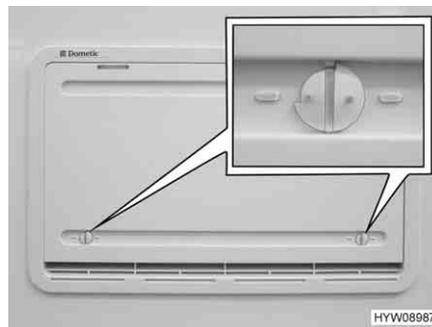

Fig. 131 Winter cover
If the refrigerator is to be operated at low external temperatures, the manufacturer recommends the use of a winter cover (Fig. 131) for the refrigerator ventilation grills.
- Open both locks (Fig. 131) (groove in horizontal position).